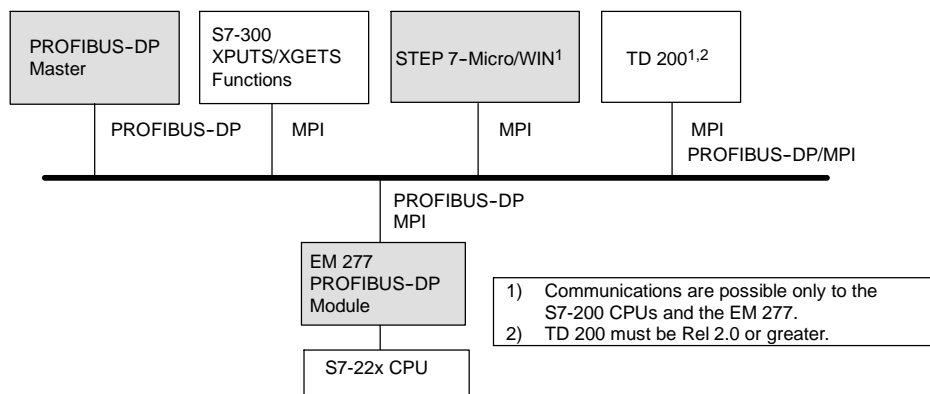

Figure A-30 PROFIBUS-DP/MPI Network
A maximum of six connections (six devices) in addition to the DP master can be connected to the EM 277 PROFIBUS-DP module. One connection is reserved for a programming device (PG) and one is reserved for an operator panel (OP). The other four connections can be used by any MPI master. In order for the EM 277 PROFIBUS-DP module to communicate with multiple masters, all masters must be operating at the same baud rate. See the Figure A-30 for one possible network configuration.